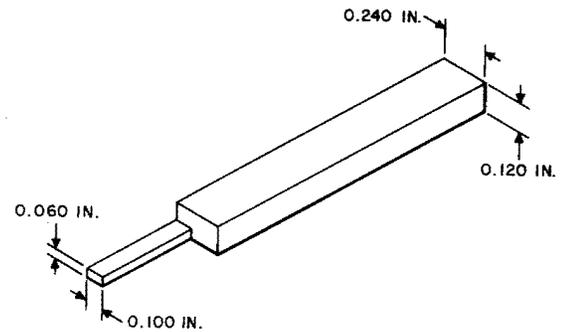

Fig. 3—B27580 Solenoid Adjusting Tool
- (1) Manually press the plunger against the solenoid seat and loosen the 3/16-inch hex nut at the rear of the plunger. Insert the proper size end of the B27580 adjusting tool (Fig. 3) between the rubber washer next to the 1/4-inch nut at the rear of the solenoid and the solenoid body.
- (2) Adjust the distance between the rubber washer next to the 1/4-inch nut and body to the tool size and tighten the 3/16-inch nut. Remove the tool.